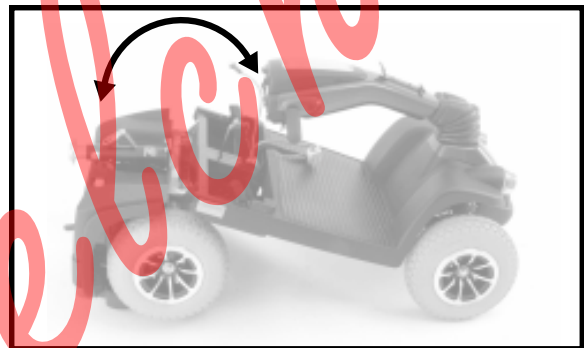

Figure 23. Frame Positioning
1. Push back on the seat post to pivot the rear section rearwards until the rear section is standing vertically on its bumper. See figure 23.